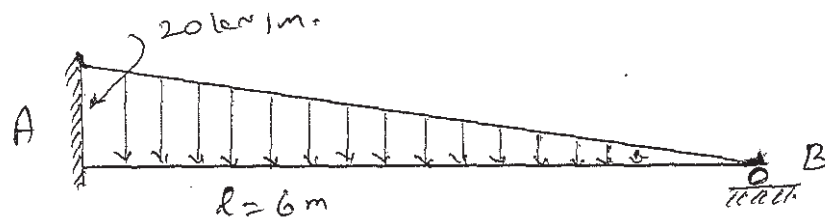

Fig. Q. 12. a.
12. a) Determine the reactions at the supports and draw S.F and B.M diagrams for the propped cantilever beam shown in Fig.Q.12.a.